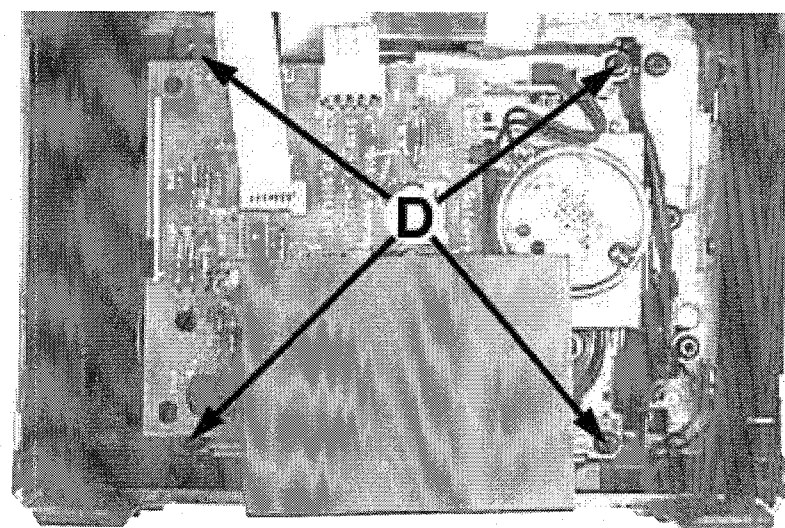

Figure 12
- 3) Loosen 4 screws D (see Figure 12) to remove the Shield Tape Deck and Module Tape Deck (pos 1107).